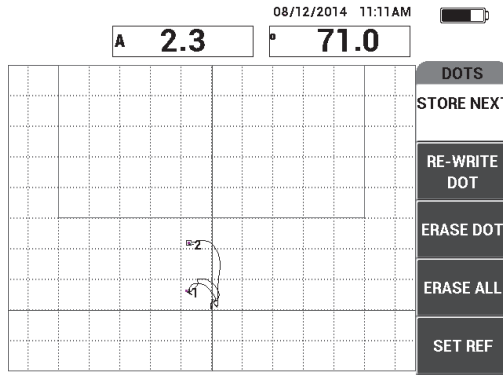

Figure 6-41 The second dot recorded
7. Slowly glide the probe over the second disbond, and then press **STORE NEXT** (A key) to record the second dot (see Figure 6-41 on page 159).